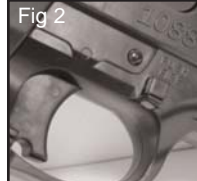

Fig 2
- Push the safety from the left side all the way in (Fig. 2). The safety is not "ON SAFE" unless it is pushed all the way in and the RED ring around the safety is NOT showing.